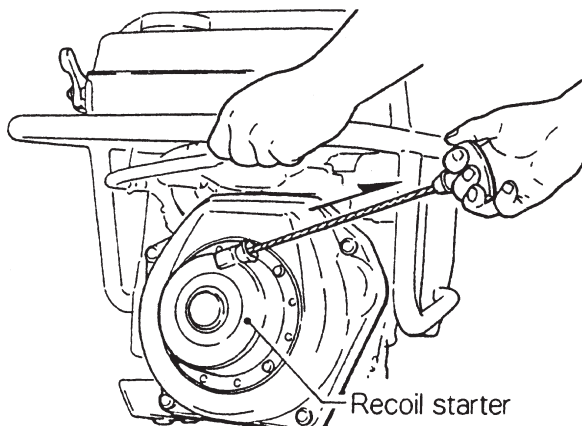

Figure 6. Recoil Starter
2. Grip the recoil starter handle and pull it until you feel a slight resistance. (See Figure 6).